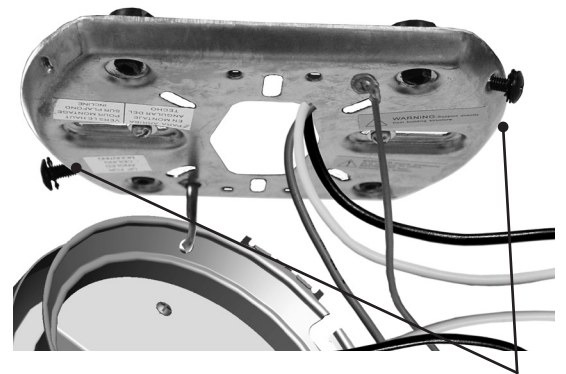

Figure 5
Step 2g. Install two (2) of the canopy screws on the left side of each end of the mounting plate Figure 5.